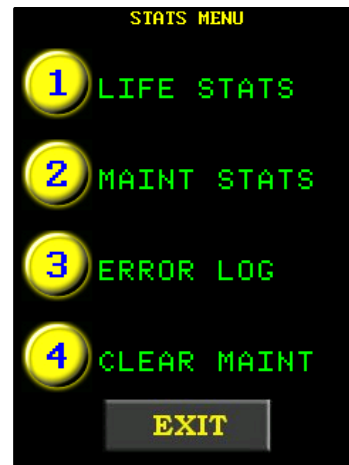

Figure 4.3.6-2: Tool Statistics Menu
**"Life Stats"** displays all information since the tool was made (Figure 4.3.6-3).